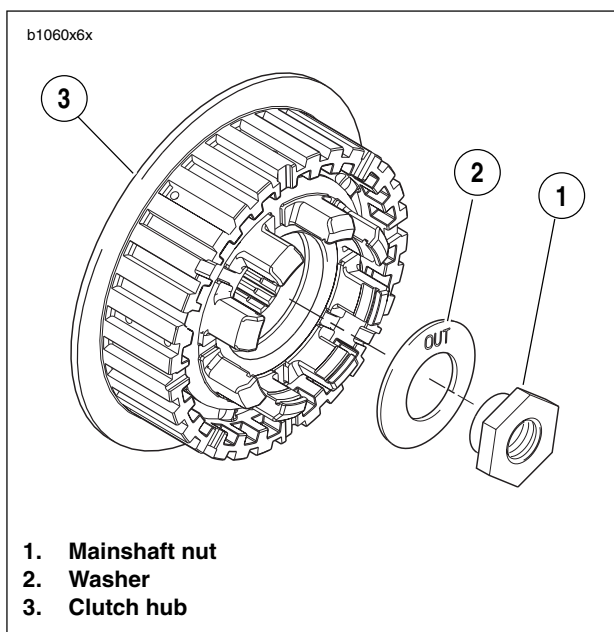

Figure 6-35. Mainshaft Nut and Washer
See Figure 6-35. Washer must be installed with the word "out" facing the mainshaft nut or transmission may be damaged.
6. See Figure 6-35. Install mainshaft washer (2) and nut (1).
- b. Place washer (2) on mainshaft with the word "out" facing away from clutch hub.
- c. Install nut (**left-hand threads**) (1). Tighten to 70-80 ft-lbs (94.9-108.5 Nm).